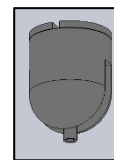

FIG.6 CABLE COUPLER
- i. ONE (1) CABLE COUPLER (CC) (as shown in FIG. 6)